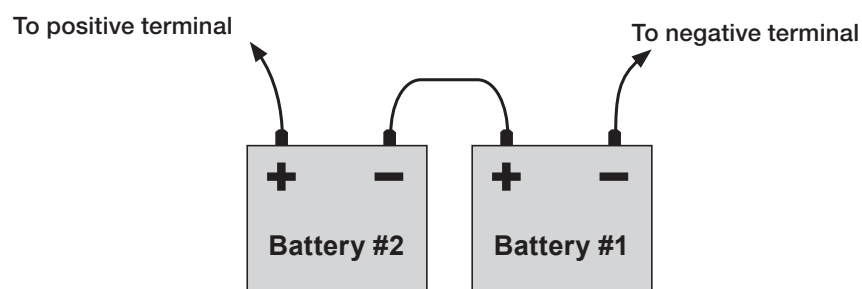

Figure 18 — FXM 350 UPS External Battery Wiring for 24 Vdc String
3. Connect the batteries as shown in Figure 18. If the in-line fuse is used, install it as shown.